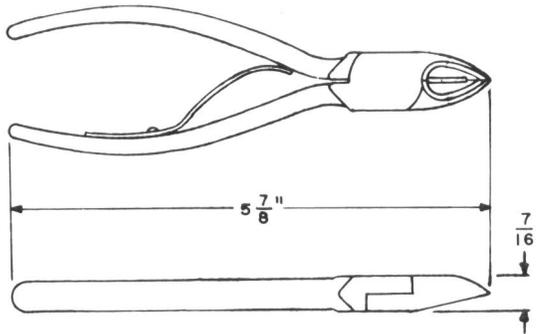

Fig. 13—KS-16060 Cushion-Jaw Cutting Pliers
2.13 KS-16060: The KS-16060 tools are cushion-jaw cutting pliers (Fig. 13) equipped with plastic grips, above the cutting edges, to hold the cut-off-portion of the feeder brush springs. These tools are used in cutting off the tips of worn feeder brushes of the 200- and similar-type selectors.